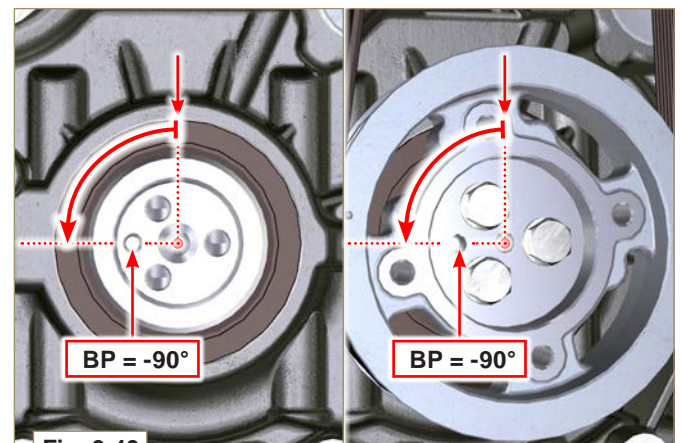

Fig. 9.49
- Check that the pistons are positioned half way between the TDC and BDC. As seen from **A** → (Par. 1.4) turn the crankshaft anticlockwise by 90°, complying with TDC of the **1st cylinder**, positioning taper pin **BP** of the crankshaft as shown in **Fig. 9.49**.